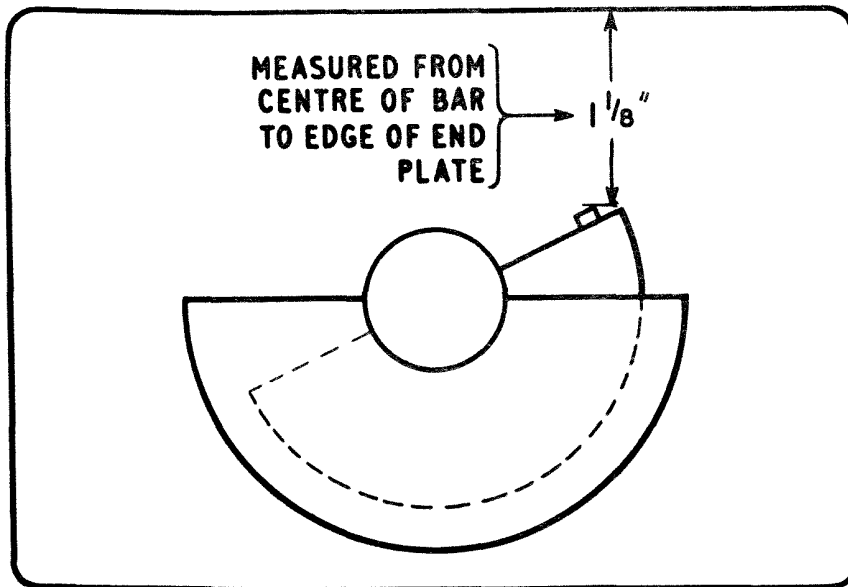

FIGURE 6
- (i) Set the Kilocycles scale against the mechanical end stop at the 1,000 kc/s end and check that the ganged capacitor is set as shown in Figure 6.